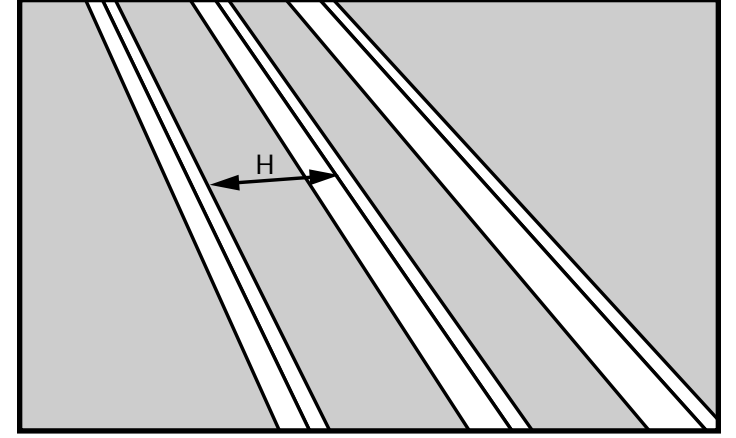

Figure 12
- STEP 1. Measure the header length "H" between the joists as shown in Figure 12.